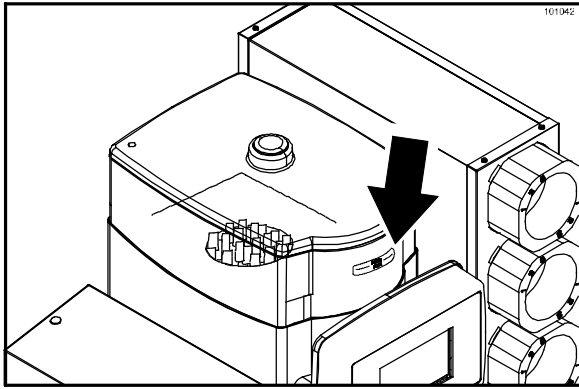

Figure 7
1. Add ice when the ice level drops to the "ADD ICE" line. (See Figure 7.)